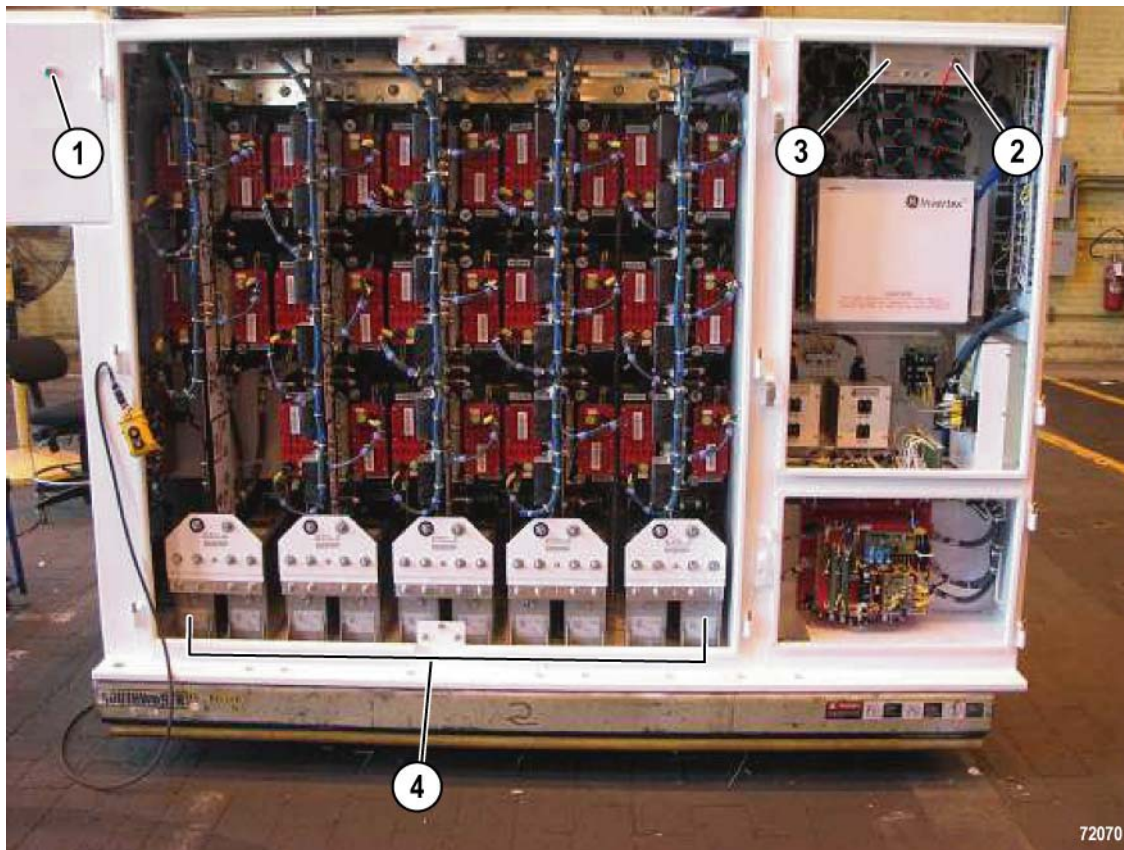

FIGURE 3-6. CAPACITOR CHARGE LIGHTS
4. Observe both capacitor charge lights (CCL1, CCL2). CCL1 is on the outside of the contactor box. CCL2 is on the switch panel inside the low voltage area. The lights will stay illuminated as long as the voltage on the DC link is greater than 50 VDC. Refer to Figure 3-6.